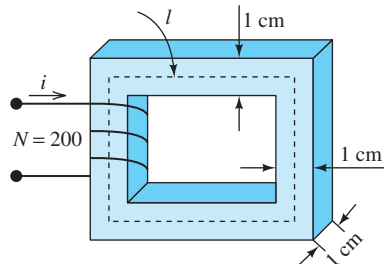

FIGURE P12.29 Magnetic circuit.
12.29 (A) An inductor is desired with an inductance of 25 mH. In Figure P12.29, find the length, l , of the core that produces this inductance given $\mu_r = 1000$.